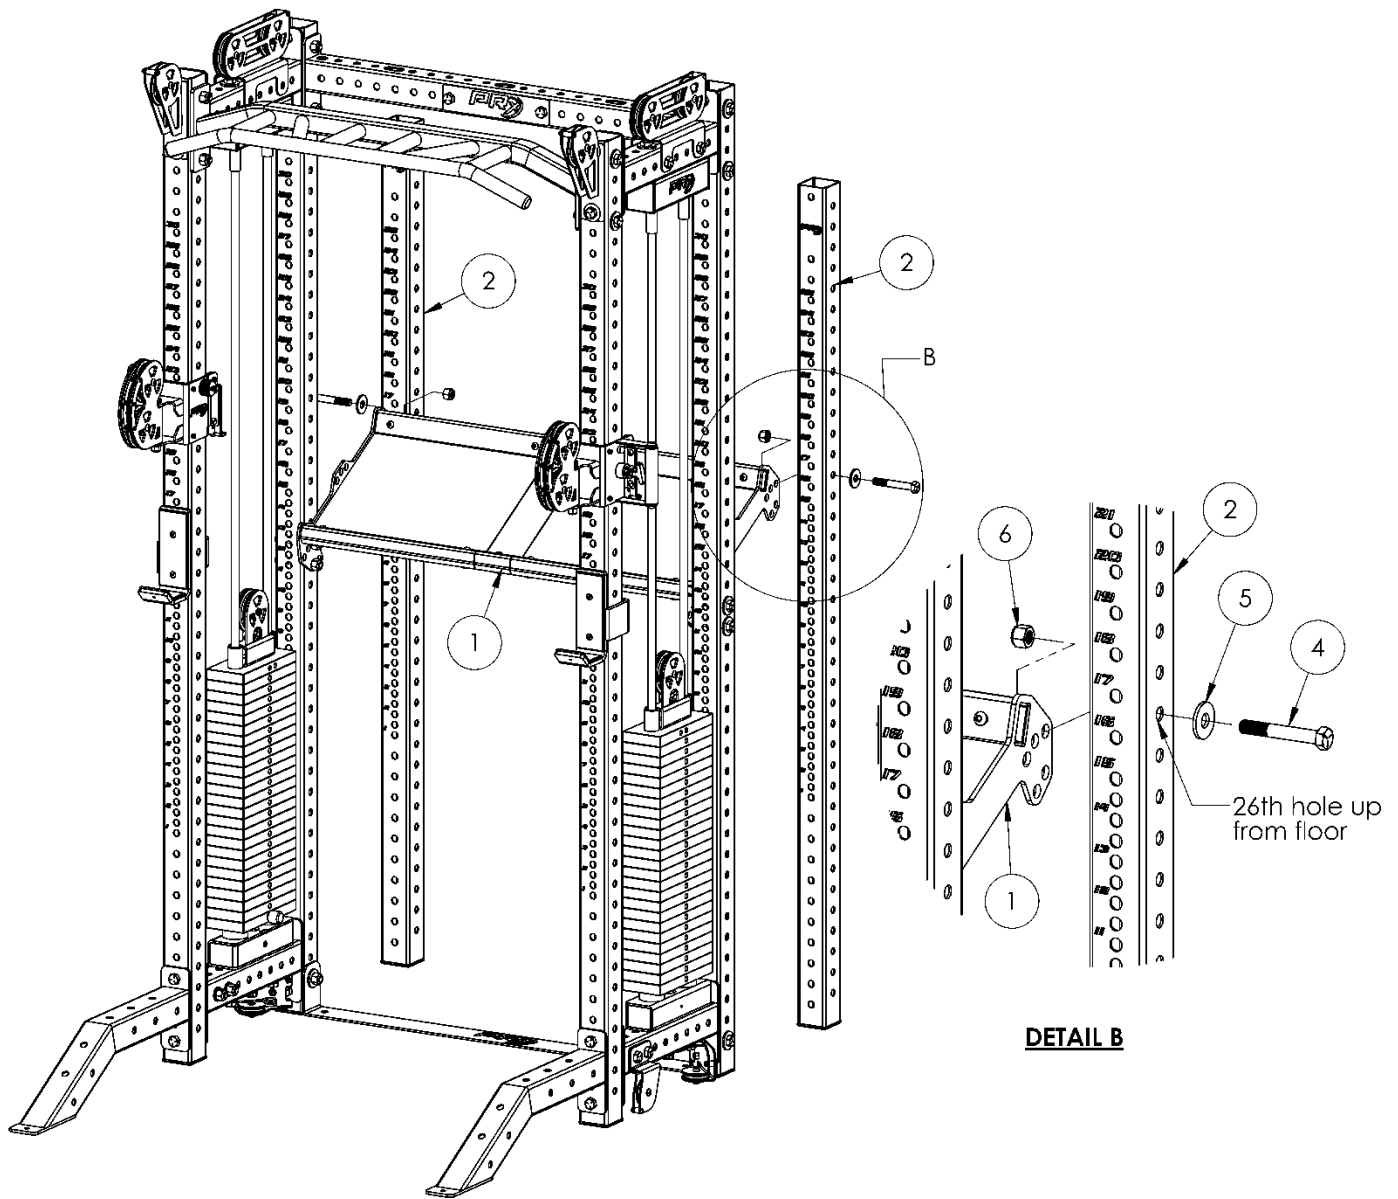

Figure 2
1. Attach 81" Uprights (2) to the back of the top Dumbbell Shelf (1) with the 5/8" hardware provided (4), (5), (6). **Figure 2**